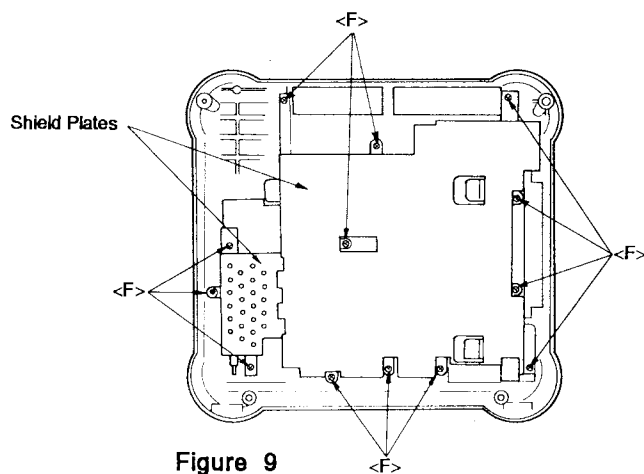

Figure 9
- (3) Remove all thirteen screws <F> (2.6 × 8 mm) as shown in Figure 9.
- (4) Carefully raise two shield plates.